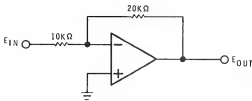

Figure 4-102
24. The circuit shown in Figure 4-102 is:
24. B — The circuit of Figure 4-102 is an inverting amplifier with a gain of 2.